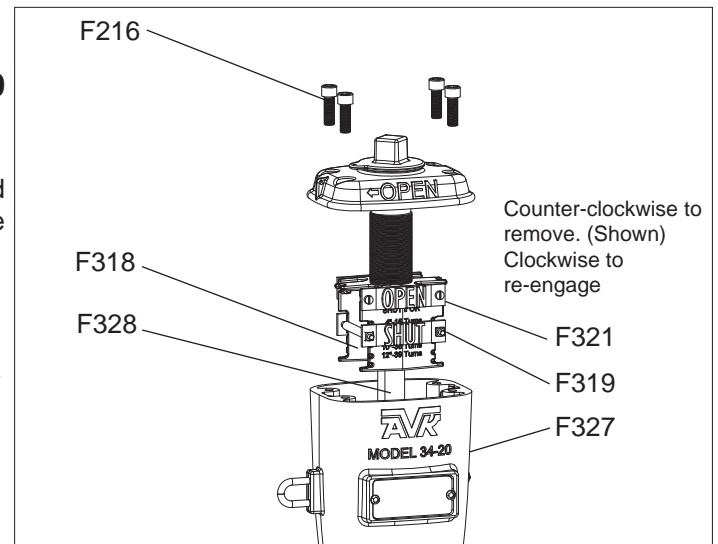

Fig. 2A
1. With a 3/8", (10mm) allen wrench, remove the four Bonnet Bolts (F216) attaching the Bonnet (F337), to the Head/Upper Barrel Assembly (F327). (See Fig. 2A).